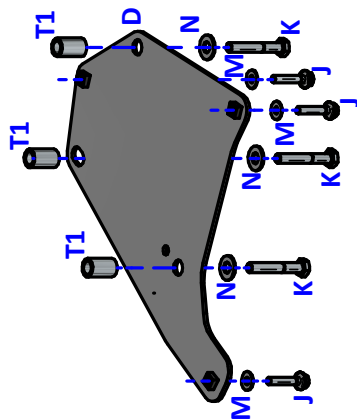

Figure 5
- Loosely hang items C onto the rear panel studs each side **Note (Audi Q6 Only):** Fully seal the rear panel and chassis openings with a suitable sealant to prevent water ingress as shown in **Figure 5**.